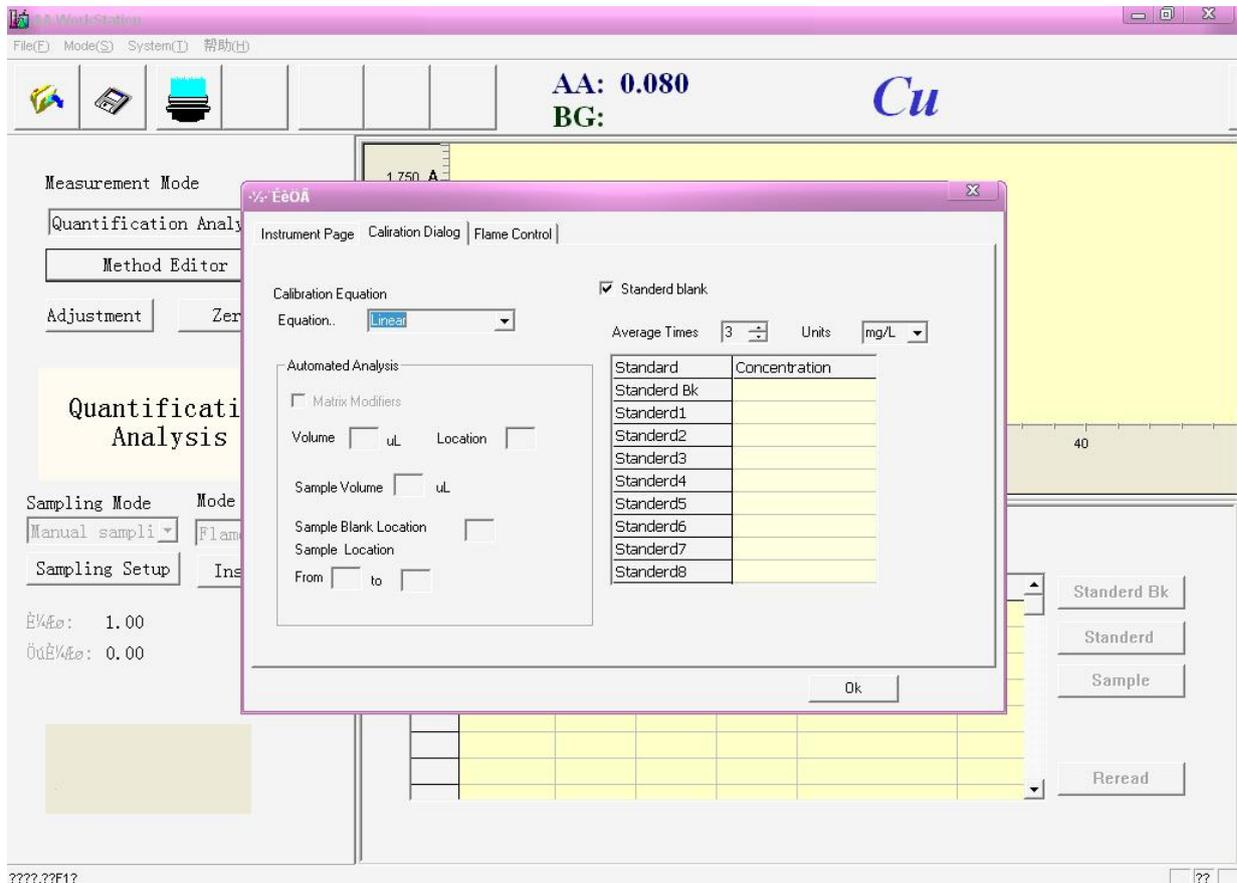

Figure 5-8
5. Press **【OK】**, open the “Calibration Dialog” window. figure 5-8